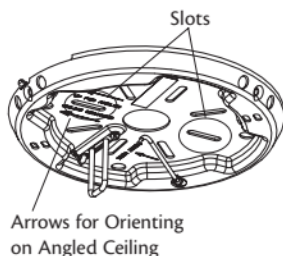

Figure 10 - Locating the slotted holes to use
- Align the slotted holes (refer to Figure 10) in the ceiling plate with the pilot holes in the wood support structure. Note: The isolation pads should be flush against the ceiling.
For Angled Ceilings: Be sure to orient the ceiling plate so that the arrows on the ceiling plate are pointing towards the ceiling peak. Refer to Figure 10.